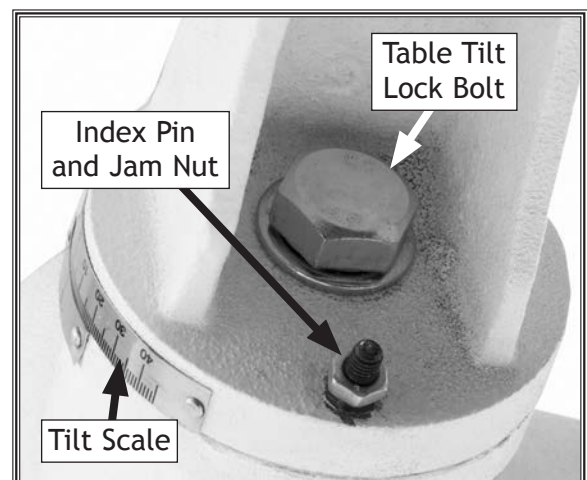

Figure 35. Table tilt lock bolt.
6. Turn the index pin jam nut clockwise and draw the index pin out of the casting until you can rotate the table to your desired angle, and use the tilt scale to find your desired drilling or sanding angle (see **Figure 35**).